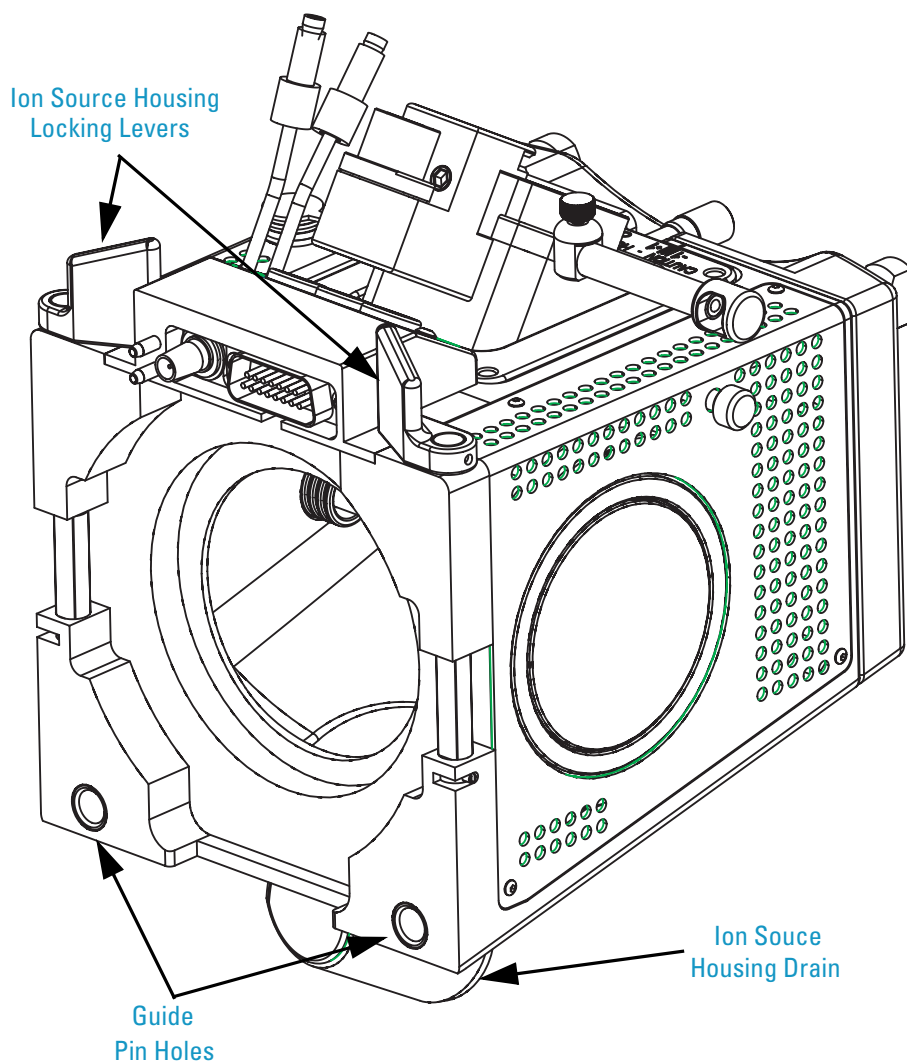
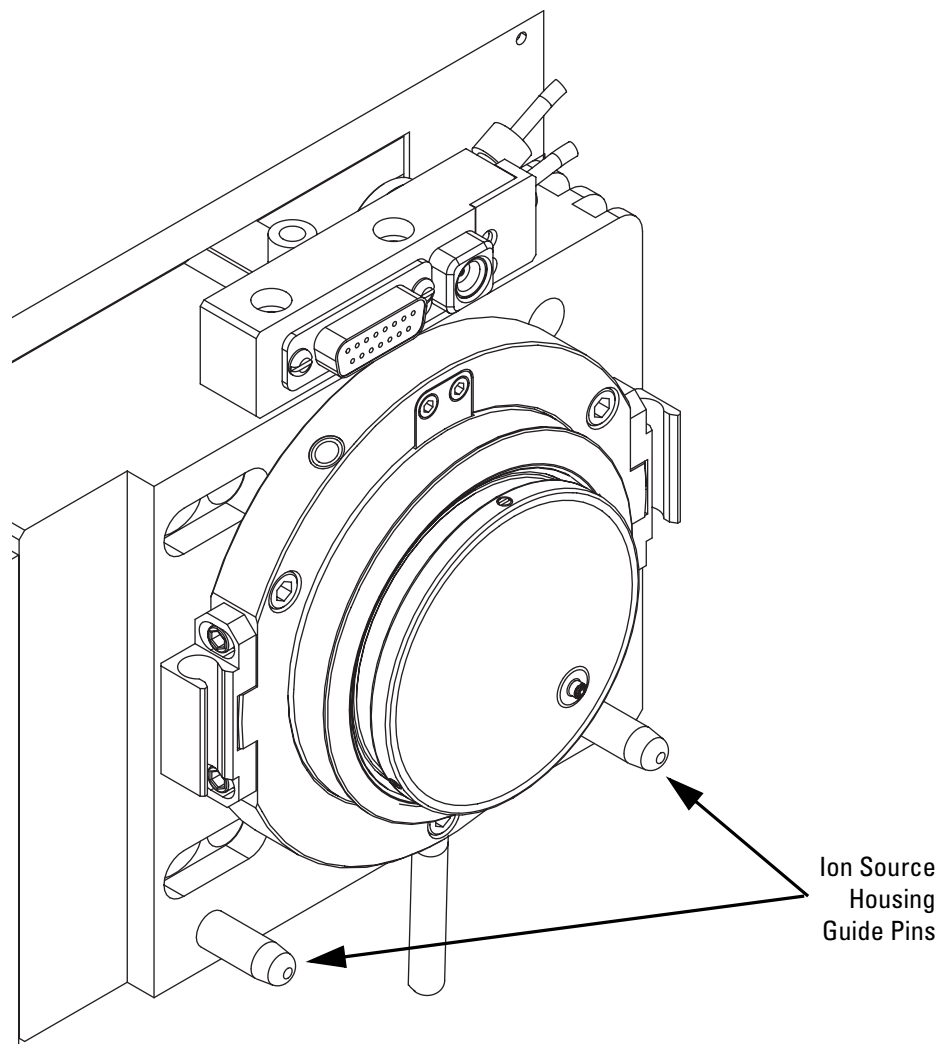

Figure 2-8. Rear view of the Ion Max ion source housing
Figure 2-9. Ion source mount showing ion source housing guide pins
1. Carefully align the two guide pin holes on the rear of the ion source housing with the ion source housing guide pins on the mass spectrometer, and carefully press the ion source housing onto the ion source mount. See Figure 2-8 and Figure 2-9.